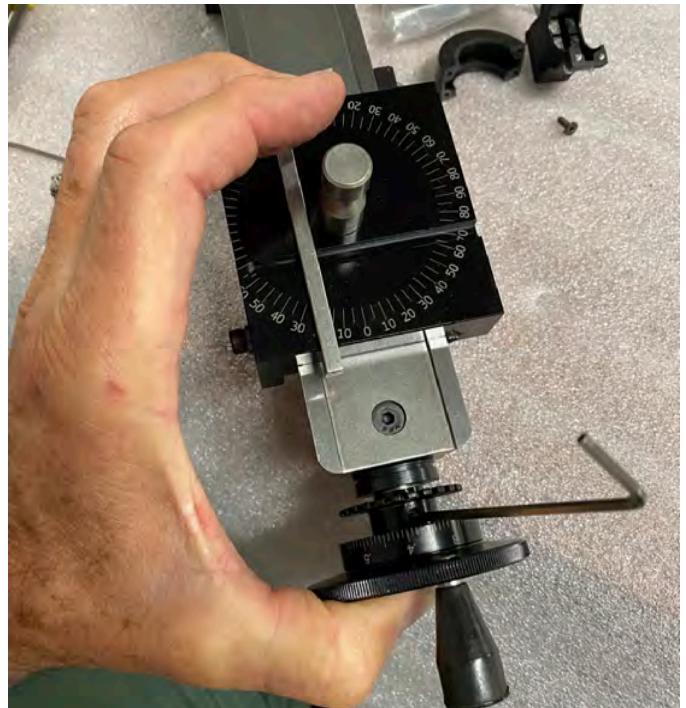

FIGURE 49
6. Now tighten the set screw in the handwheel (see Figure 49).